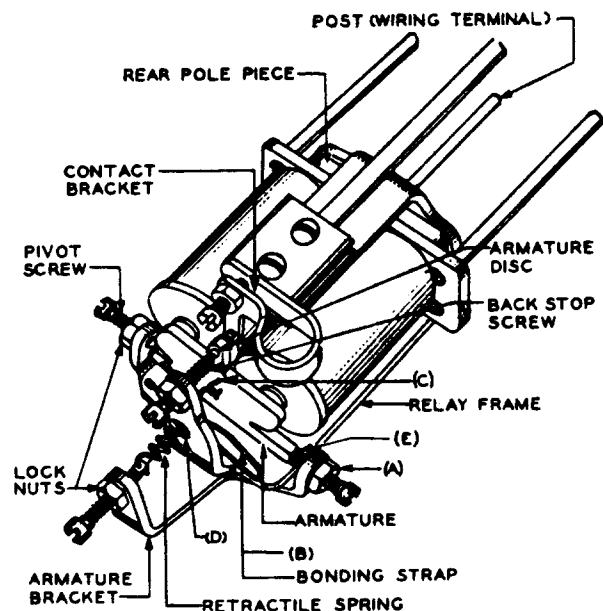

Fig. 1 - 207- and 213-type Relays
2.04 Tightness of Locknuts: Fig. 1(A) - The locknuts shall be sufficiently tight to hold the respective screws in their adjusted positions.
2.05 Bonding Strap Position: Fig. 1(E) - The bonding strap shall be free from any kinks or knots and shall be drawn out to the right (looking at the relay from the front) in as long a loop as possible.
*2.06 Hook Movement: Fig. 1(C) - The hook holding the retractile spring to the armature shall not bind in the armature.
2.07 Retractable Spring and Frame Clearance: Fig. 1(D) - There shall be sufficient clearance between the retractile spring and the relay frame, where the spring passes through the hole in the frame, to insure that the spring will not touch the frame when the relay is in final adjustment.
2.09 Armature Movement: Fig. 1(E) - The armature shall move freely in its bearings without excessive sideplay. Excessive shall be interpreted to mean more than 0.003 inch. The sideplay shall be checked by moving the armature from side to side in line with the axis of the pivot screws.